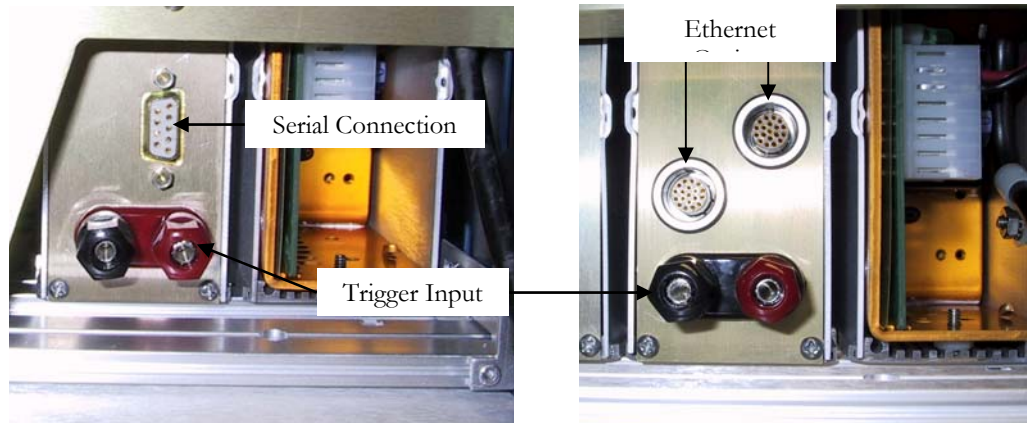

Figure 2: TDAS PRO LAB Rear View (RS232 and Ethernet option)
1. Attach one end of the serial cable to the TDAS PRO LAB rack connector (see Figure 2).